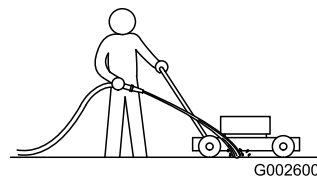

Figure 32
1. With the engine running on a flat paved surface, spray a stream of water in front of the **right** rear wheel (Figure 32).